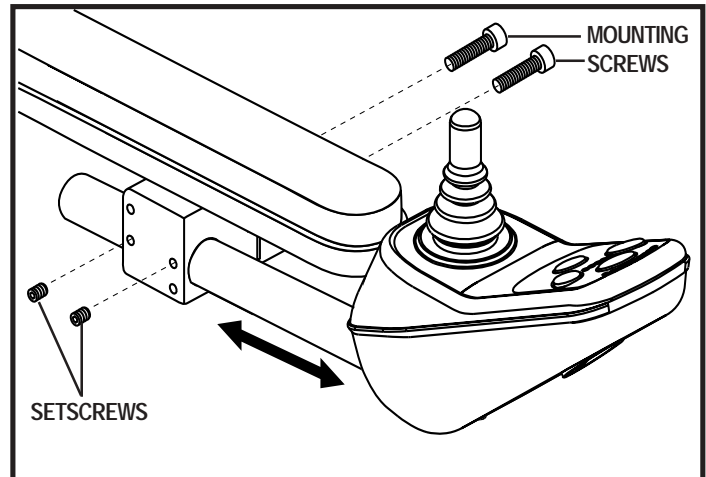

Figure 15. Controller Position Mounting Bracket
**NOTE:** If your power chair is equipped with a Specialty Seat, Synergy Seat, or TRU-Balance Power Positioning System, loosen the setscrews in the mounting block, slide the controller in or out to the desired position, then tighten the setscrews. See figure 15.
**NOTE:** If your power chair is equipped with a Specialty Seat, Synergy Seat, or TRU-Balance Power Positioning System, loosen the mounting screws in the mounting block, transfer the mounting block and controller to the opposite armrest, and tighten the mounting screws. See figure 15.